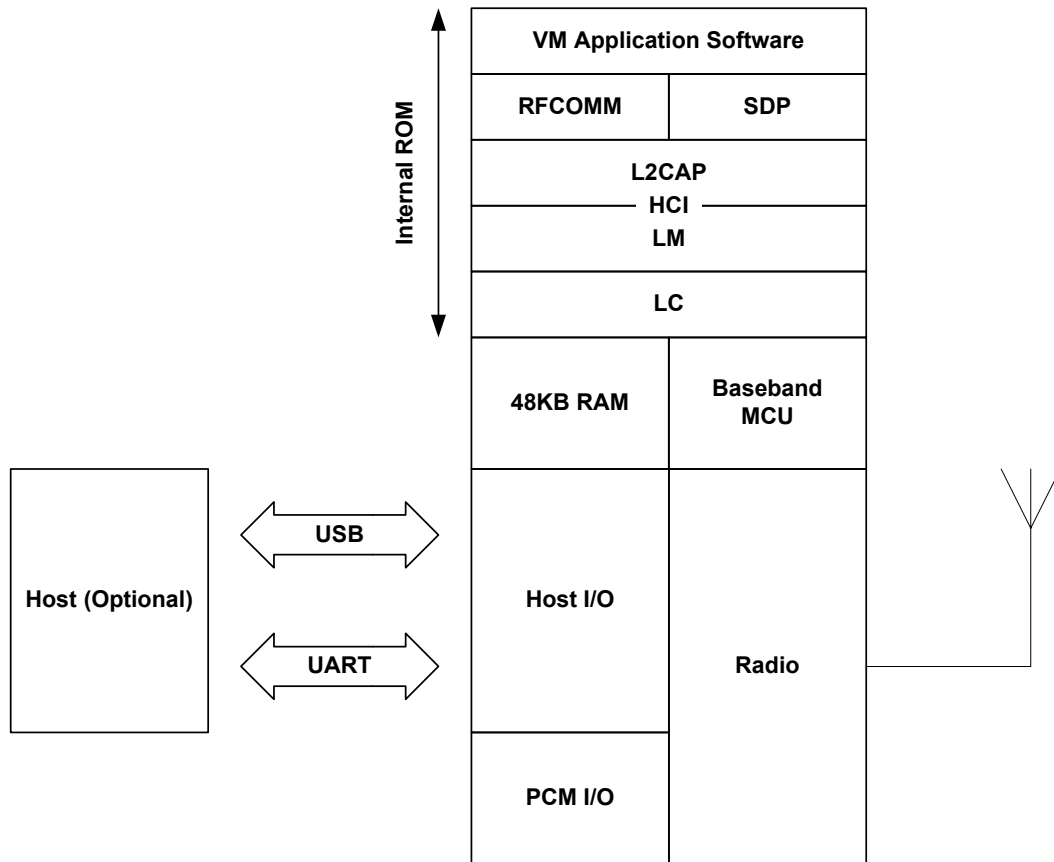

Figure 8.3: Virtual Machine
In Figure 8.3, this version of the stack firmware shown requires no host processor (but it can use a host processor for debugging, etc.). All software layers, including application software, run on the internal RISC processor in a protected user software execution environment known as a *Virtual Machine (VM)*.